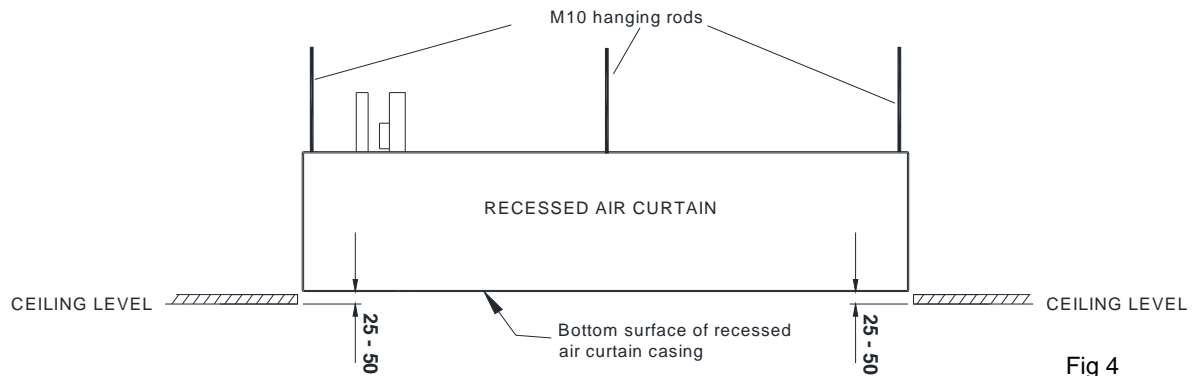

Fig 4
**Step 3** If you are installing model T1500R, fit a 5th M10 threaded rod into the hanging point in the middle of the unit. For model T2000R, fit 5th and 6th threaded rods, see Appendices 1 and Fig 4.
**Step 5** Adjust the height of the unit on its hanging rods so the bottom surface of the casing goes between 25-50mm up into the ceiling as shown in Fig 4. Ensure the unit is level.